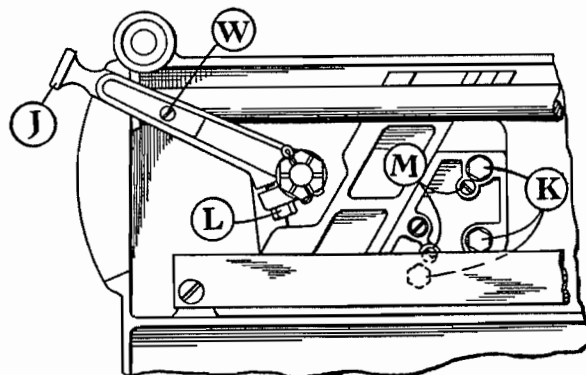

Fig. 3
(A) To Adjust Zero Point When the slice adjusting lever J is at the extreme right or zero position the gage plate should lie in the same plane as the face of the knife. If it does not, adjust as follows: First, turn the machine up on its side to expose the underneath parts, then loosen the screw L shown in Fig. 3. Move the gage plate up to the level of the knife face, and the lever to zero, then tighten screw L.
(B) To take Up Looseness in Gage Plate Turn the machine on its side, loosen the three screws K slightly and then turn each of the two screws M a fraction of a turn to take up the looseness. Be sure to tighten the screws K again. (See Fig. 3).
(E) **To Tighten Slice Adjustment**, turn screw W, Fig. 3.